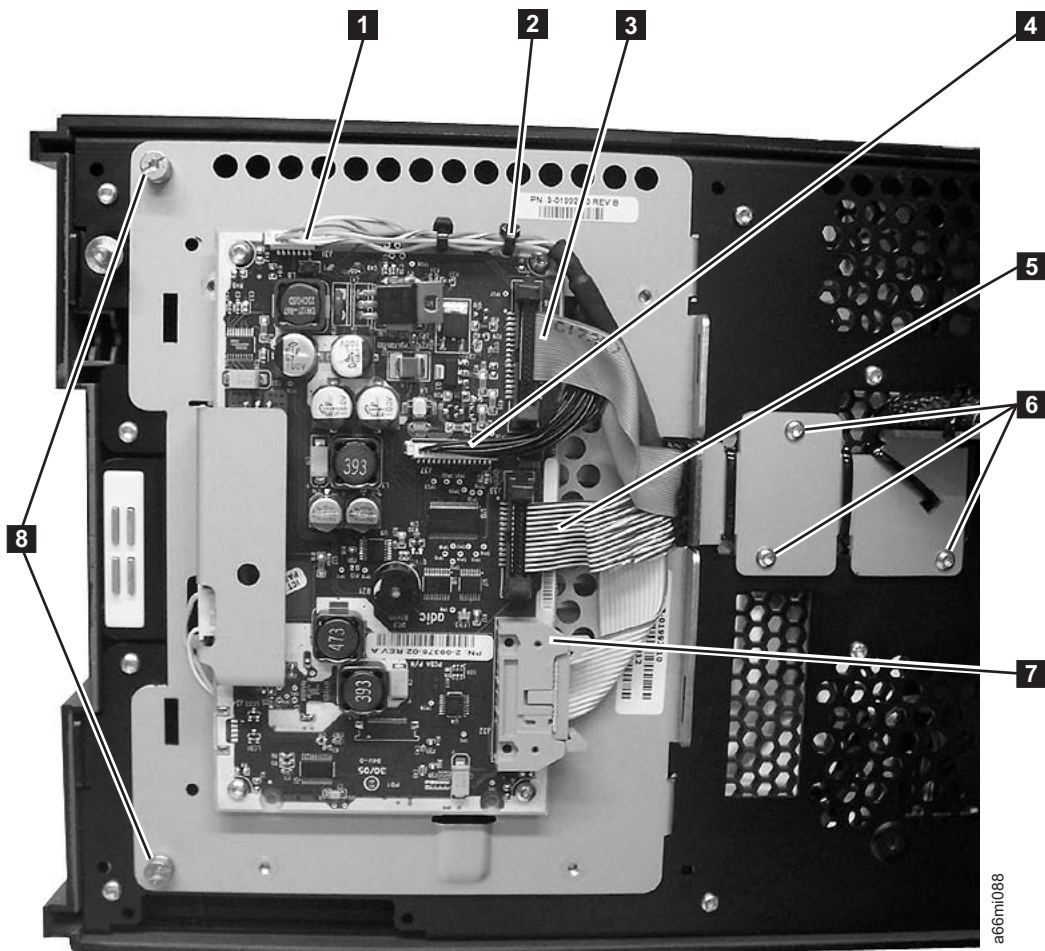

Figure 8-63. Operator Panel Cable Connectors
- e. Remove cable connectors J36 (see **3** in Figure 8-63 on page 8-66), J35 (see **5** in Figure 8-63 on page 8-66), and J32 (see **7** in Figure 8-63 on page 8-66) from the Operator Panel board.
- f. Remove the 3 screws (see **6** in Figure 8-63) from the cable retainer bracket on the back of the door.